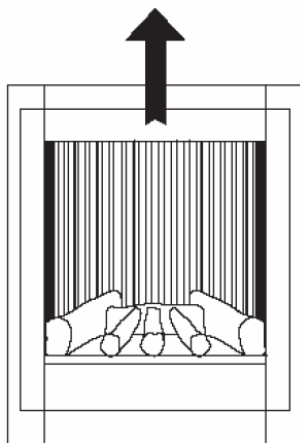

Fig.10
- 1) Remove the door frame. Lift and pull forward (see fig. 10).